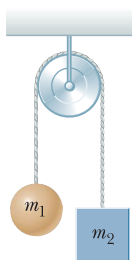

Figure P12.35
35. **Review.** A 2.00-m-long cylindrical steel wire with a cross-sectional diameter of 4.00 mm is placed over a light, frictionless pulley. An object of mass $m_1 = 5.00 \text{ kg}$ is hung from one end of the wire and an object of mass $m_2 = 3.00 \text{ kg}$ from the other end as shown in Figure P12.35. The objects are released and allowed to move freely. Compared with its length before the objects were attached, by how much has the wire stretched while the objects are in motion?